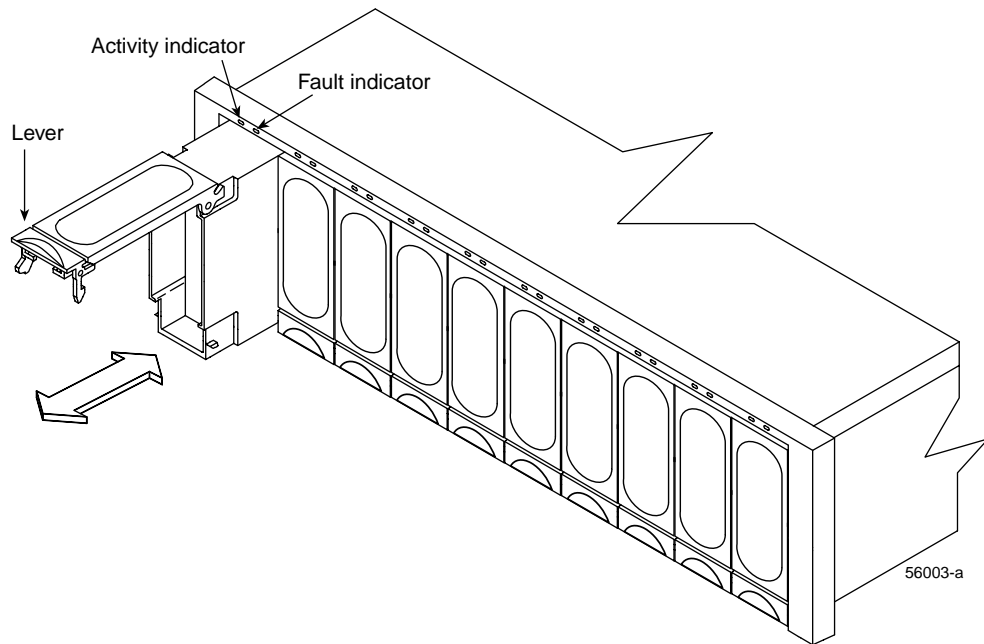

Figure 7-1 Removing and Installing a Drive Module
4. Pull out the drive module (see Figure 7-1).